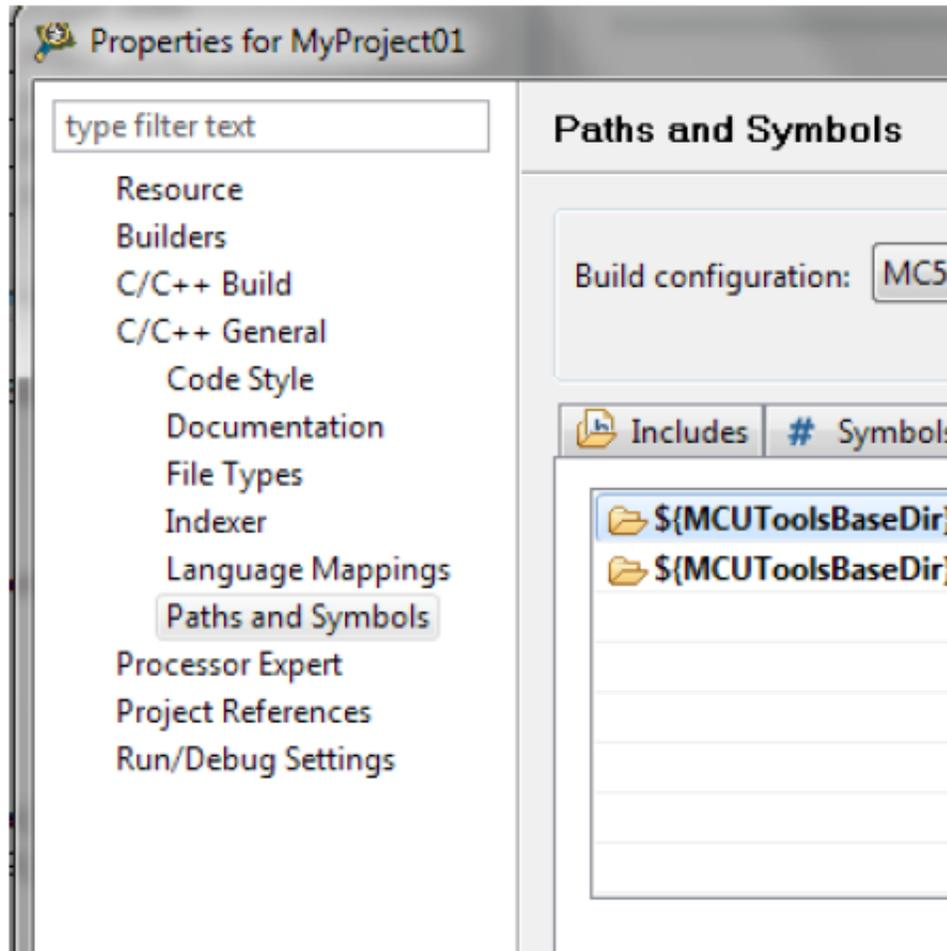

Figure 6. Project properties
2. Expand the C/C++ General node and click Paths and Symbols. See Figure 6.